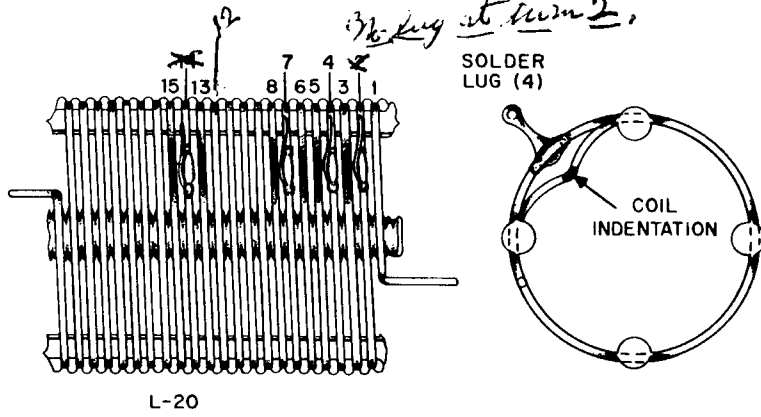

FIGURE 23. L-20 PREPARATION
- L-20, the large coil and ~~four~~ ³ #8 solder lugs. Bend the solder lugs around the coil windings and solder in place as shown in Figure 23. *EACH*
- Tubing covered heavy bare wire from the large grommet. Solder the free end to solder lug #2 of L-20. *SOLDER FREE END TO DOUBLE SOL LUGS as in FIG (21)*